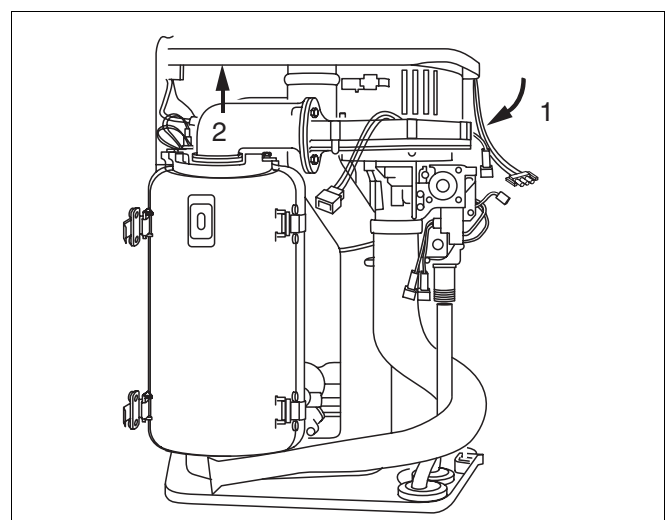

Fig. 60 Replacing the fan on the 600 Series: remove the gas connection unit
- Swivel the gas combination unit forward (fig. 60, item 1)
- Remove the gas combination unit from its bayonet connector and pull upwards to detach (fig. 60, item 2).